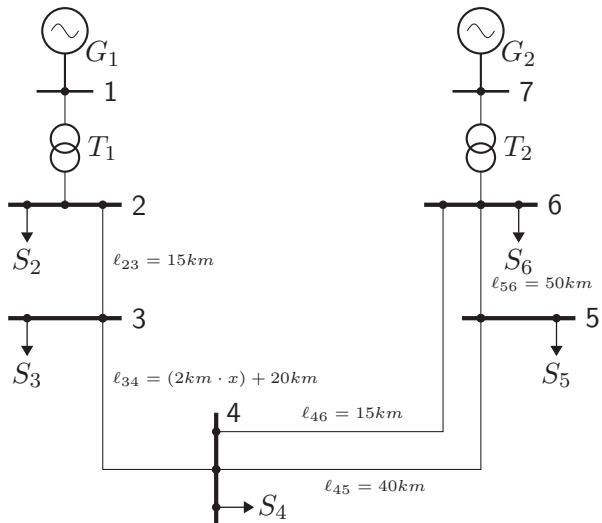

Figure 1: Single line diagramm of the three phase transmission system.
Prepare the provided system data from Figure 1 and Table 1 to be used with the code developed in Exercise 1.
- (c) Convert all impedance, load and voltage data for the entire system in Fig. 1 to the system per unit quantities. Report the conversion steps and the final results.
- Figures and tables must have a label and caption (e.g. Figure 1: plot of active power in respect to).